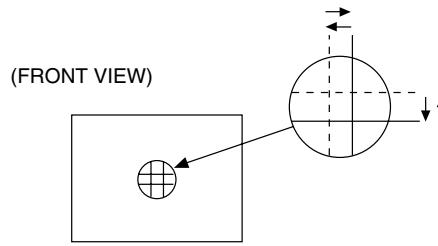

Fig. 7
2. Using 4-pole convergence magnets, overlap the red and blue lines in the centre of the screen (Fig. 7) and turn them to magenta (red/blue).
3. Using the Y_H VR on the deflection yoke, match the Y_H (CROSS). (Fig. 7 and 12)